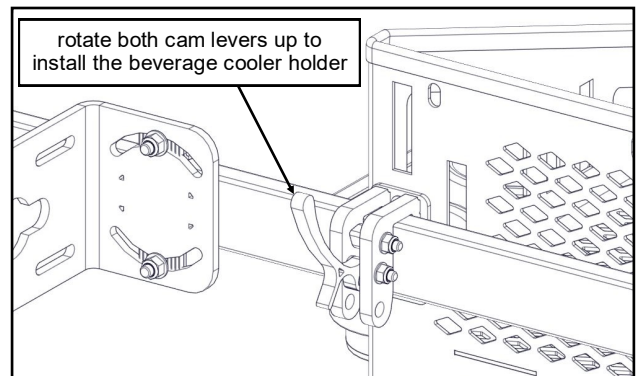

Fig. 8 (cam lever in the open position)
8. To install the beverage cooler holder, rotate both cam levers UP, then place onto the Tool Bar. See fig. 8.